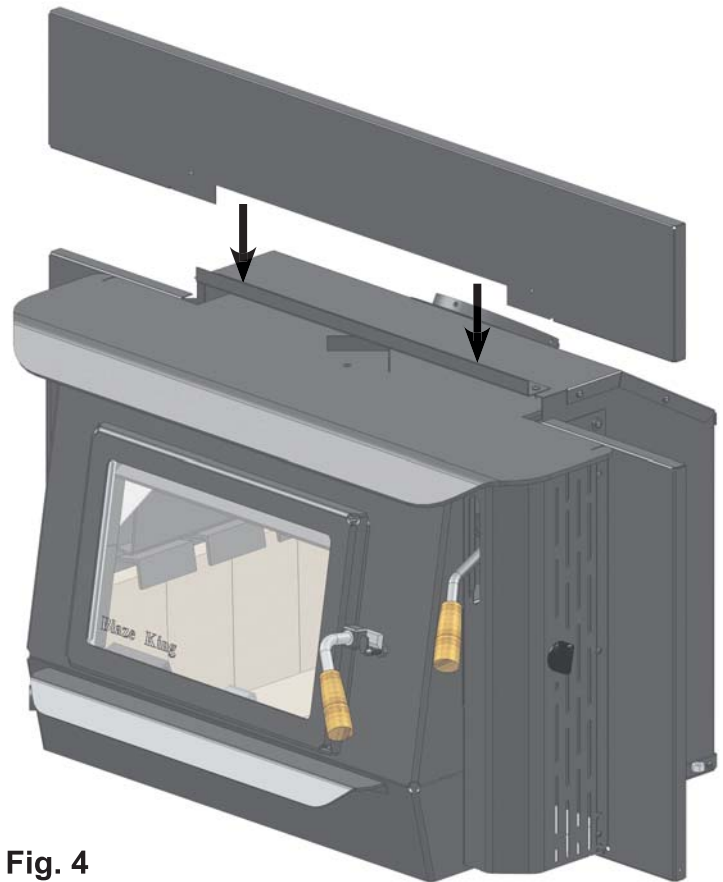

Fig. 4
6. Place the shroud top onto unit sliding it down so the tabs on the back of the shroud top slide over the tabs flange on the insert. (see **Fig. 4**)